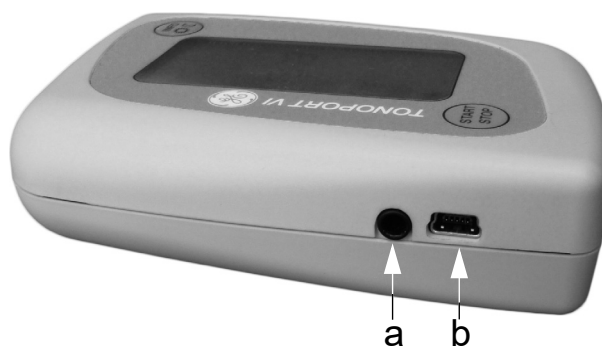

Fig. 5-1 Connections for PC cable
- via cable 2001589-040 if the USB port of TONOPORT VI is used (**b**, Fig. 5-1)
- via cable 2001589-011 if the serial port of TONOPORT VI is used (**a**, Fig. 5-1)
*To be able to use the USB port of TONOPORT VI (b, Fig. 5-1), you need to install the USB driver and check the communication as described below.*